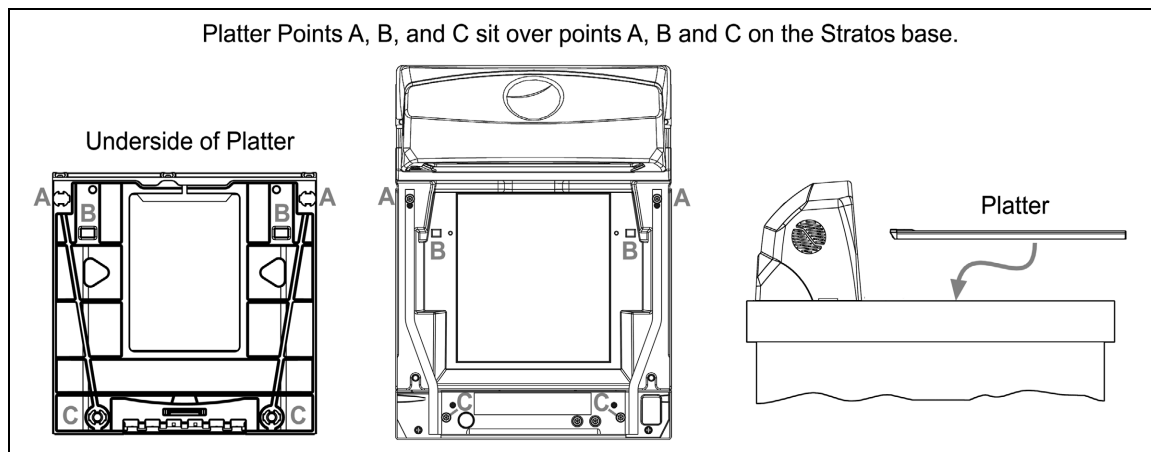

Figure 48. Platter Installation
4. Reinstall the platter onto the MS2420/MS2430 scanner/Diva scale (see Figure 48).